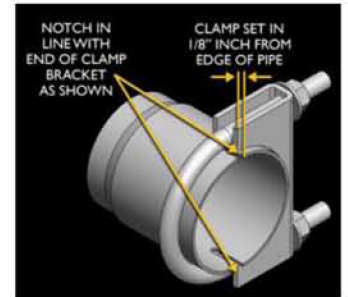

Fig. 1
**VERY IMPORTANT:** Align all clamps so that the open edge of the clamp bracket is parallel and aligned with the notch in the pipe, and the outside edge of the clamp bracket is approximately 1/8" from the end of the pipe expansion. (See Fig. 1) Failure to properly position or orient the clamps could result in a weak clamping load, or even a potential leak at the clamp joints.